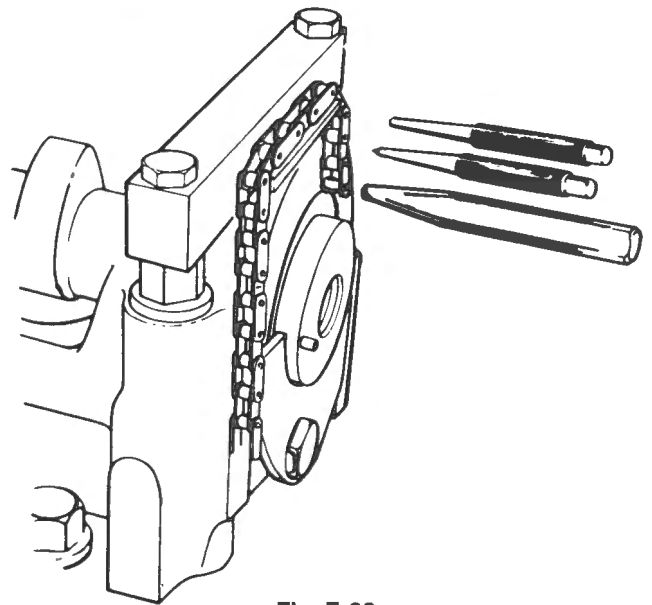

Fig. E-23
- 4 Connect the two ends of the chain with a link and position the chain on the anvil as shown in Fig. E-23.